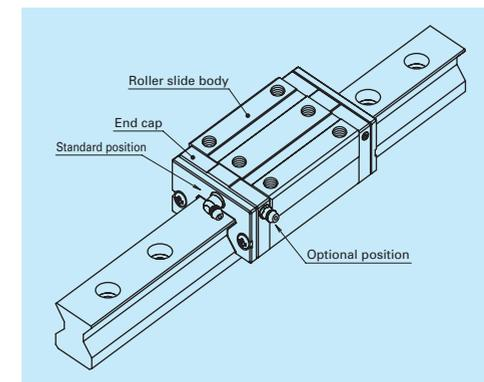

Fig. 11 Mounting position of lubrication accessories
(2) Mounting position of lubrication accessories
- The standard position for grease fittings is at the end face of the roller slide, but we can mount them on the side of the end cap for as an option. (Fig. 11) Please consult NSK for the installation of grease or tube fittings to the roller slide body.